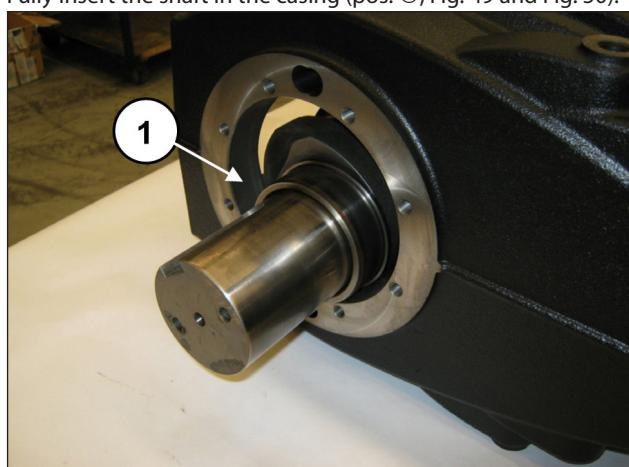
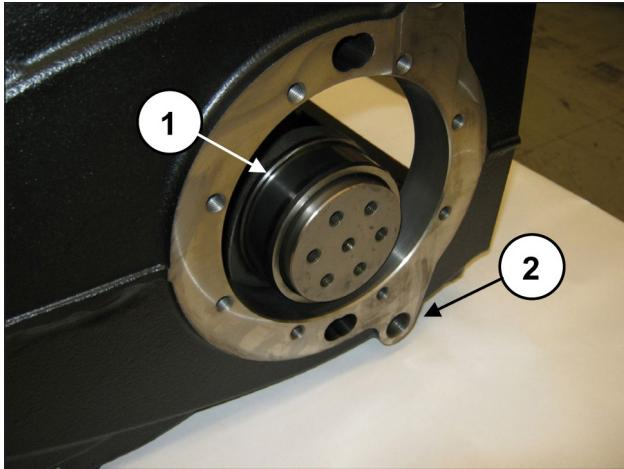

Fig. 49
Fig. 50
The bend shaft must always be assembled with the PTO on the opposite side with respect to the G1/2" holes for the oil discharge plugs on the pump casing (pos. ②, Fig. 50).
Fully insert the shaft in the casing (pos. ①, Fig. 49 and Fig. 50).